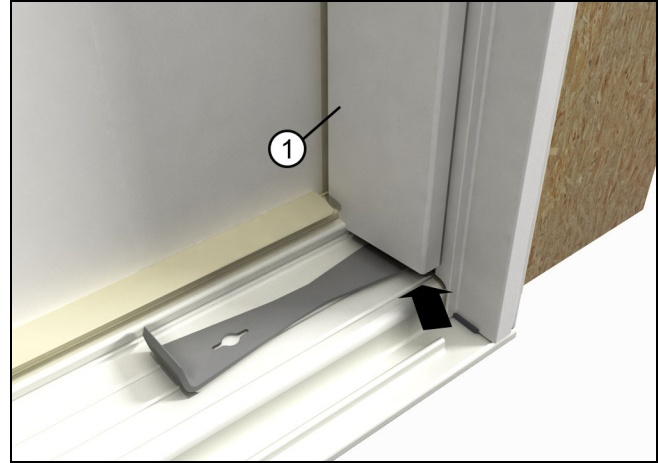

Figure 16
3. To reinstall the stop, slide the stop in at the bottom first between the bottom panel drip cap and jamb. Press the exterior flange of the side part stop into place first and then press the interior side of the stop until you can hear it snap along the entire length of the stop. Tuck the weather strip under the front edge of the stop. See Figure 16.